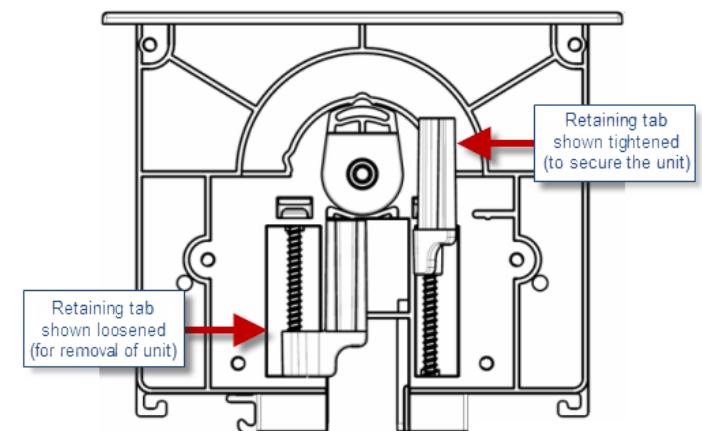

FIG. 4 HYDRAPORT BASE ASSEMBLY (SHOWN MOUNTED) - MOUNTING SCREWS LOCATIONS
FIG. 4 provides a cutaway view of the End Cap, showing the retaining tabs in both the loose position and the tightened (secure) position:
2. Tighten the four mounting screws (loosened in Step 1, see FIG. 4) located inside and at each end of the HydraPort base assembly, to rotate the retaining tabs into locking position under the mounting surface.